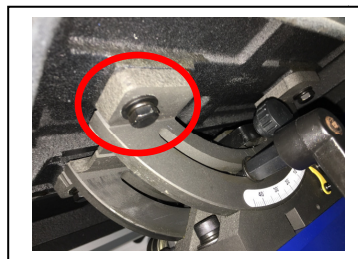

Figure 4
4. Make sure the table is in the center. Then, secure table to trunnion. Please use (1) M8 flat washer (2) M8 spring washer, and (3) M8x25 hex head bolt to secure. (see Figure 4)
1. Loosen the lock knobs (see Figure 4) and tilting table left until it rests against table stop bolt M8.